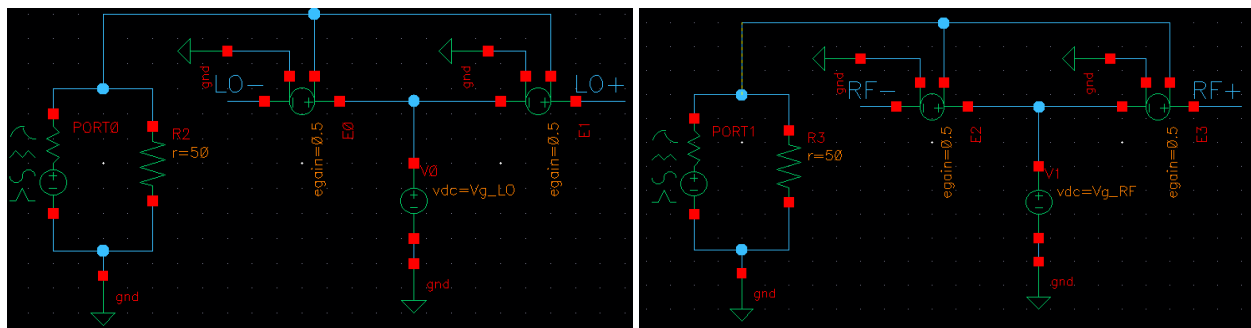

Fig. 2
- To feed in RF and LO signals we use ports terminated to 50 Ω. Then, they are split into out-of-phase components as illustrated in Fig. 2.